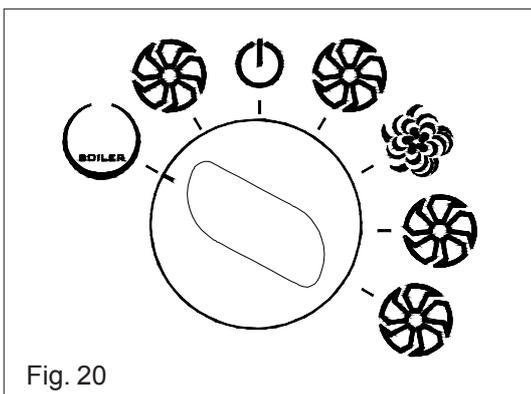

Fig. 20
- Turn the knob to the position shown in Fig. 20.